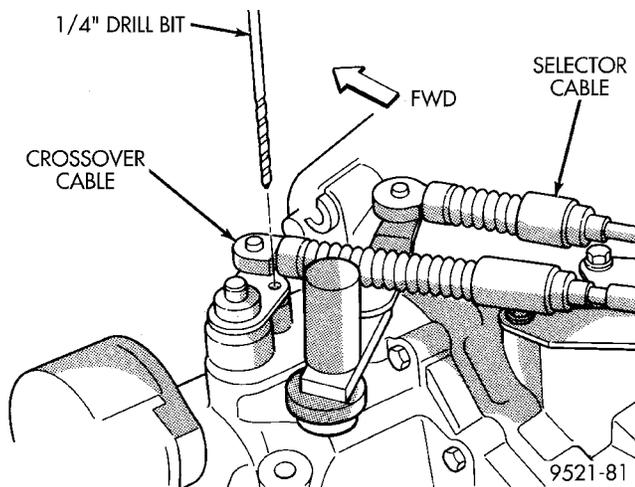

**Fig. 139 Crossover Cable Adjustment Screw**
- (1) Remove shift console from vehicle.
- (2) Loosen adjusting screw on crossover cable at shifter (Fig. 139).